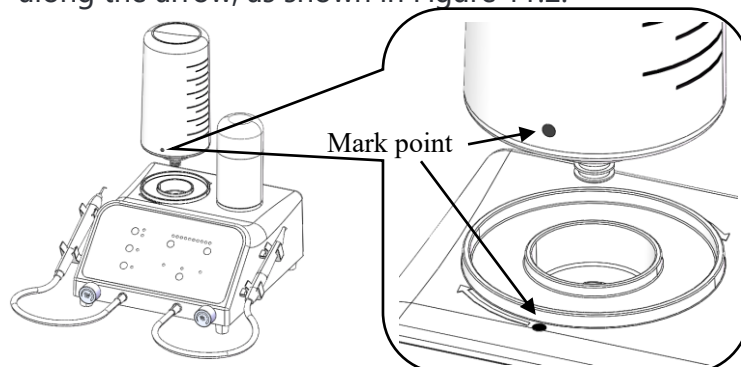

Figure 11.2 Schematic diagram of water bottle installation
- 7) Fill the water bottle with an appropriate amount of purified water, align the round mark point of the water bottle with the mark point of the host, and then vertically insert the water bottle into the water bottle slot above the host, and then rotate the water bottle clockwise by 90° along the arrow, as shown in Figure 11.2.